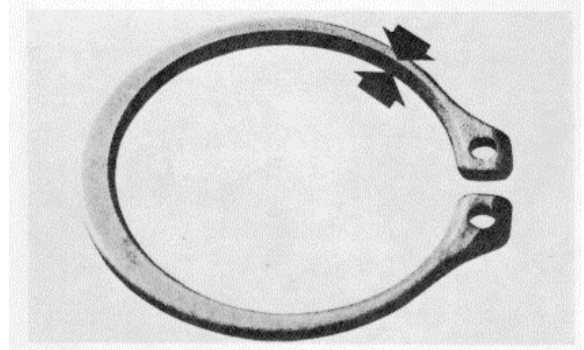

Figure 16J-7. Beveled Edge of the Retaining Ring
2. Use a 3375318 Bearing Mandrel to support the outer bearing (4) and press. Press the drive end of the shaft (5) through the outer bearing until shaft shoulders seat against the bearing inner race. Secure the outer bearing with a re-aining ring (3), beveled side away from the bearing, Figure 16J-7.